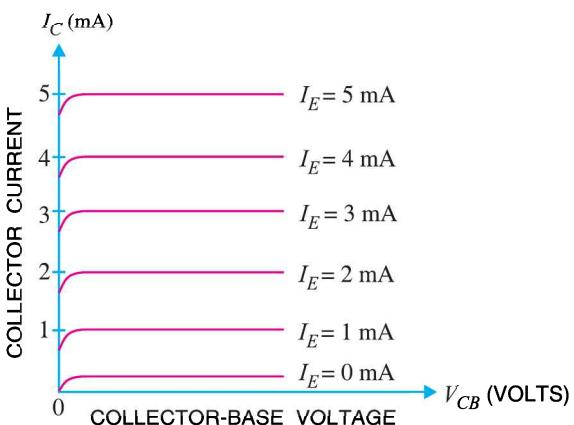

Fig. 8.15
**2. Output characteristic.** It is the curve between collector current  $I_C$  and collector-base voltage  $V_{CB}$  at \*constant emitter current  $I_E$ . Generally, collector current is taken along  $y$ -axis and collector-base voltage along  $x$ -axis. Fig. 8.15 shows the output characteristics of a typical transistor in  $CB$  arrangement.